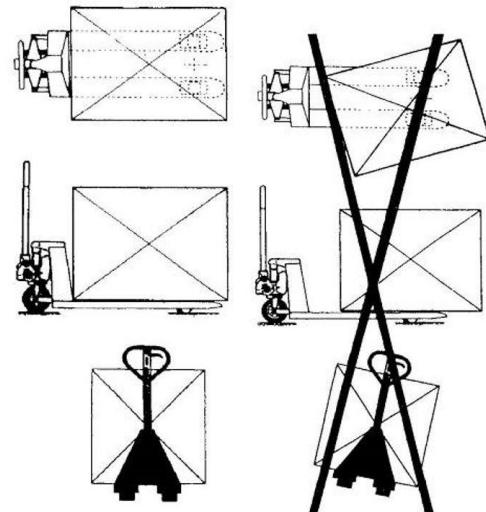

Fig. 6
- 5.2 The cargo loading type is shown in fig. 6.